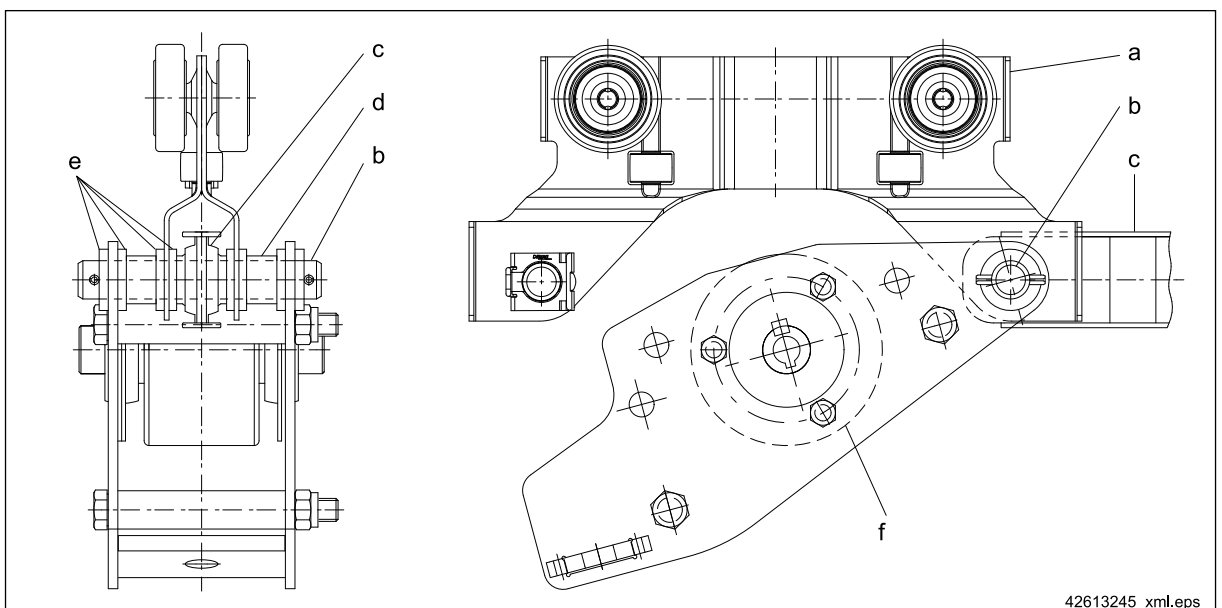

Fig. 45
3. The arrangement of link bar (c), supporting washers (e) and spacer sleeves (d) can be seen in ⇒ Fig. 45, Page 53 (shown without motor and tensioning element).